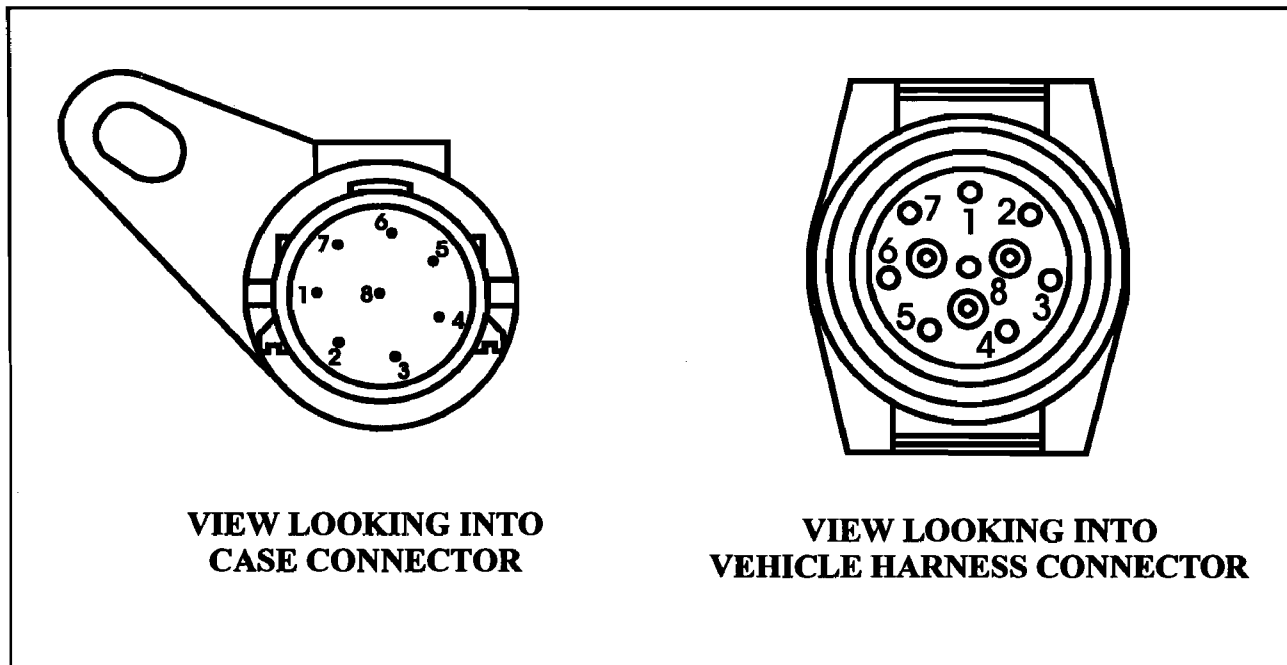

Figure 2
- (a)** Orient yourself to the transmissions case connector and the vehicle harness connector as shown in Figure 2.